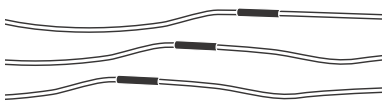

Fig. 9 Completed splices
6. Continue to apply the heat to the tubing taking care not to let the flame directly contact the tubing. When the tubing shrinks and the sealant flows from the ends of the tubing, the splice is complete. See fig. 9.